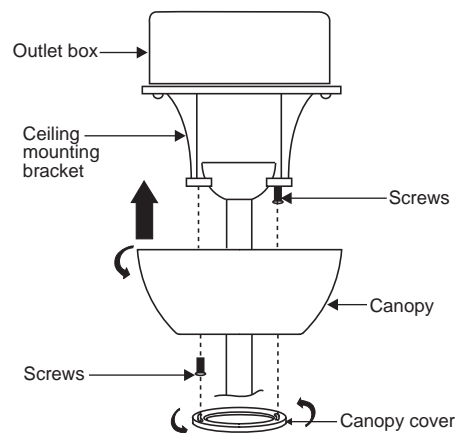

Fig. 15
Step 2. Slide the canopy up to the mounting bracket and place one of the key hole slots over the mounting screw on the mounting bracket. Rotate the canopy until the screw head locks in place at the narrow section of the key hole. **See figure 15.**
NOTE: Adjust the canopy screws as necessary until the canopy and canopy cover are snug. (**Fig. 15**)